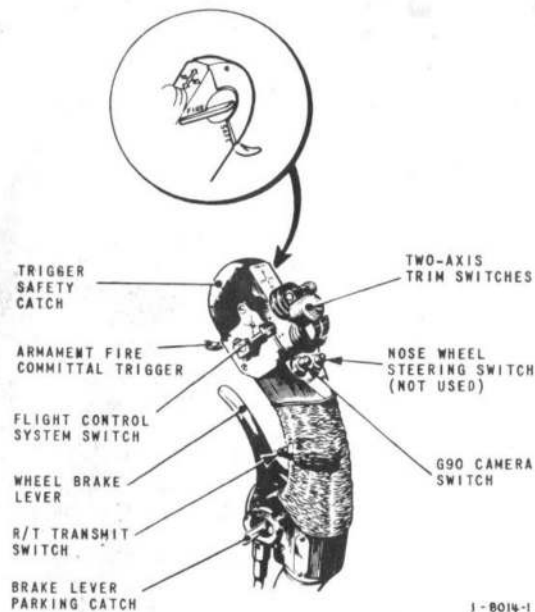

Fig. 4. Control column handle
- 22 FLIGHT CONTROL SYSTEM SWITCH (fig.4)
- 23 CONTROL COLUMN HANDLE (fig.4)